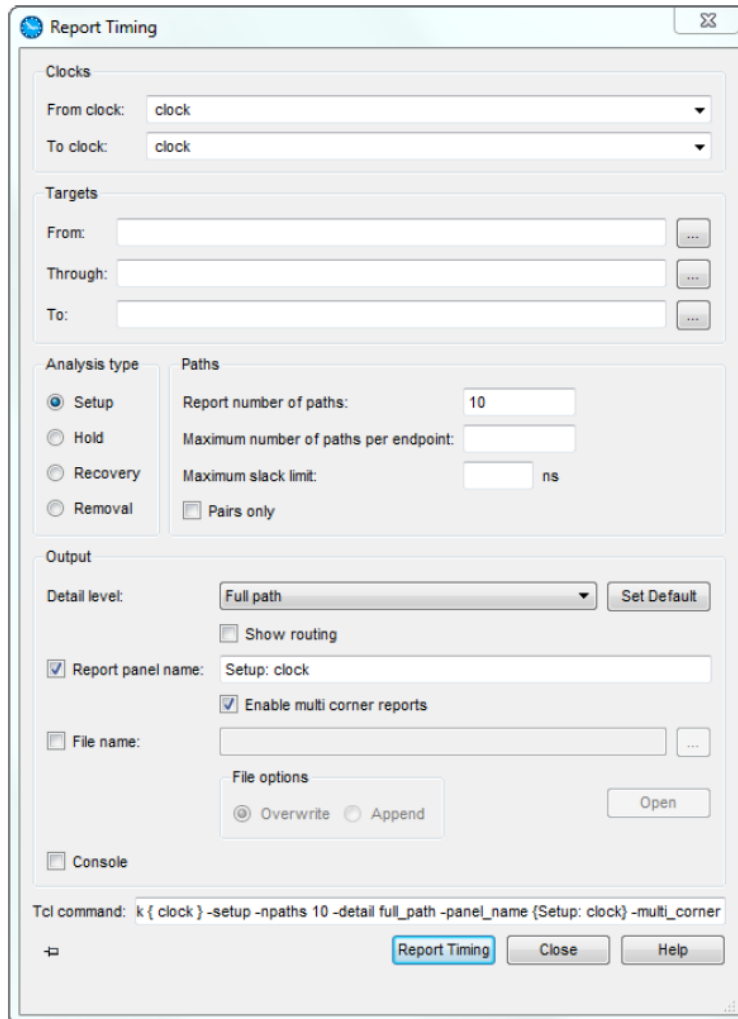

Figure 2A: Report Timing dialog.
notice that the clock signal from the example design has been given a clock period constraint of 1 ns (frequency of 1000 MHz). This is a default constraint that the Quartus Prime CAD tool places on any clock signal in a design project that does not have any user-provided timing constraints. Right-click on the name of the clock signal and select the command *Report Timing ...* (in *Timequest UI*). This action opens the Report Timing dialog shown in Figure 2A.
- To generate a report, double-click on a report name in the Tasks pane e.g. the *Report Setup Summary*. By right-clicking on the clock name and then selecting *Report Timing...*, we open the *Report Timing dialog* previously shown in Figure 2A. Several fields in this window help specify the data to be reported.